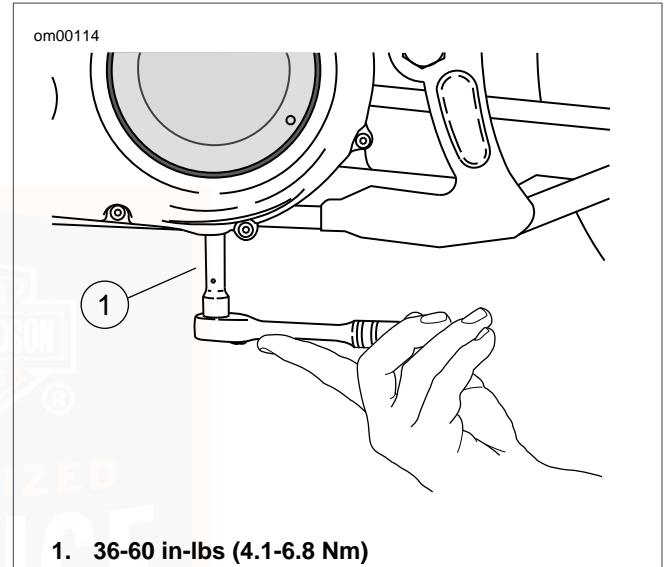

Figure 58. Removal/Installation of Chaincase Drain Plug
3. See Figure 58. Remove magnetic drain plug at bottom of primary chaincase cover. Drain lubricant into suitable container.